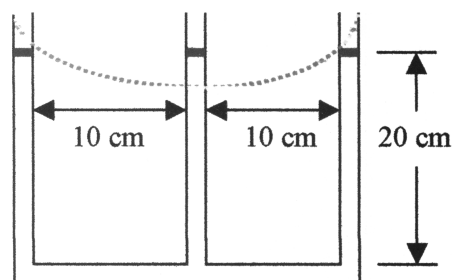

Fig. P2.159
**2.159** The three-legged manometer in Fig. P2.159 is filled with water to a depth of 20 cm. All tubes are long and have equal small diameters. If the system spins at angular velocity  $\Omega$  about the central tube, (a) derive a formula to find the change of height in the tubes; (b) find the height in cm in each tube if  $\Omega = 120$  rev/min. [HINT: The central tube must supply water to *both* the outer legs.]
**Solution:** (a) The free-surface during rotation is visualized as the **red** dashed line in Fig. P2.159. The outer right and left legs experience an increase which is one-half that of the central leg, or  $\Delta h_o = \Delta h_c/2$ . The total displacement between outer and center menisci is, from Eq. (2.64) and Fig. 2.23, equal to  $\Omega^2 R^2/(2g)$ . The center meniscus